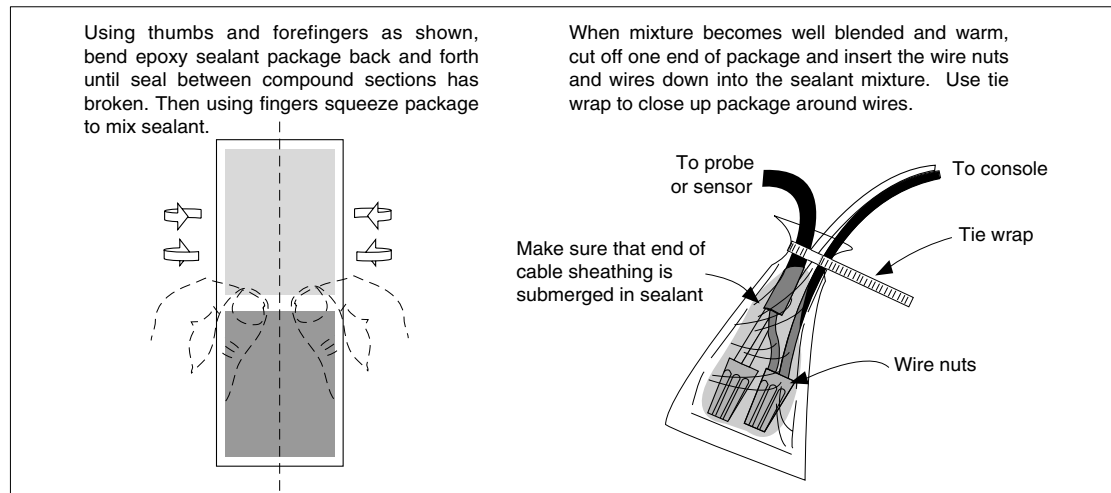

Figure 23. Epoxy Sealing Probe and Sensor Field Connections
3. Seal wire nuts with epoxy sealant following the instructions in Figure 23. For Hi-Lo sensors with dual floats, use one epoxy bag for the top float's wiring connections and a second epoxy bag for the bottom float's wiring connections.